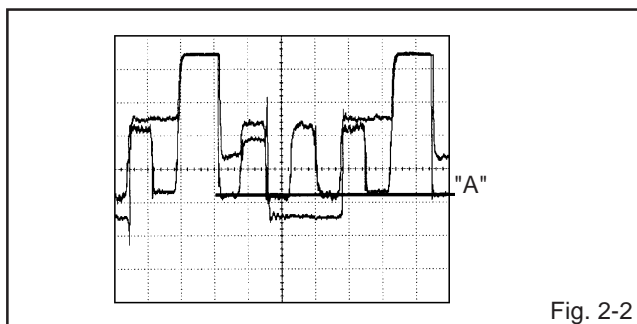

Fig. 2-2
5. Press the VOL. UP/DOWN button on the remote control until the section "A" becomes a straight line. **(Refer to Fig. 2-2.)**